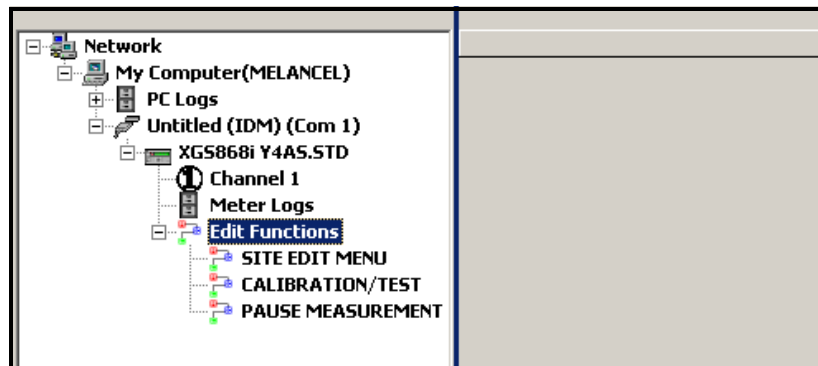

Figure B-1: Menus in the *Edit Functions* Option
4. Expand the *Edit Functions* option. The window now appears similar to that shown in Figure B-1 below.